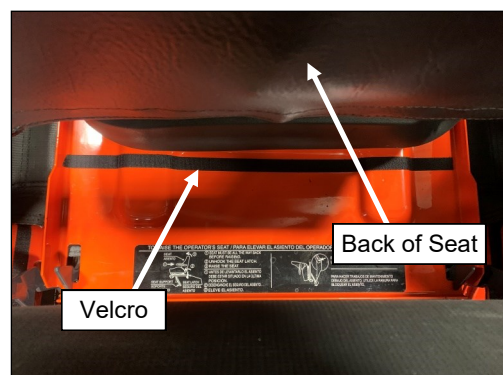

Fig. 10.3 (Install Velcro)
- 10.3 See fig. 10.3. Lower the seat, slide the seat completely forward, tilt seat back forward, and install adhesive Velcro to the seat base so that it is located up against the stamped rib as shown.